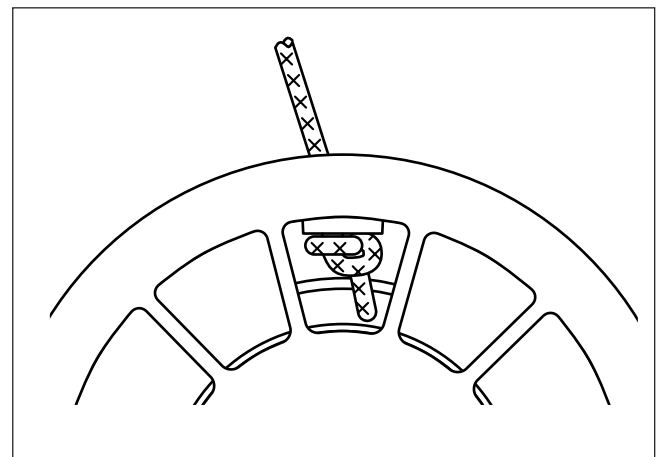

Fig. 12-9
- 3 Put the rope into the reel, taking care that the rope end does not stick up. (Fig. 12-9)